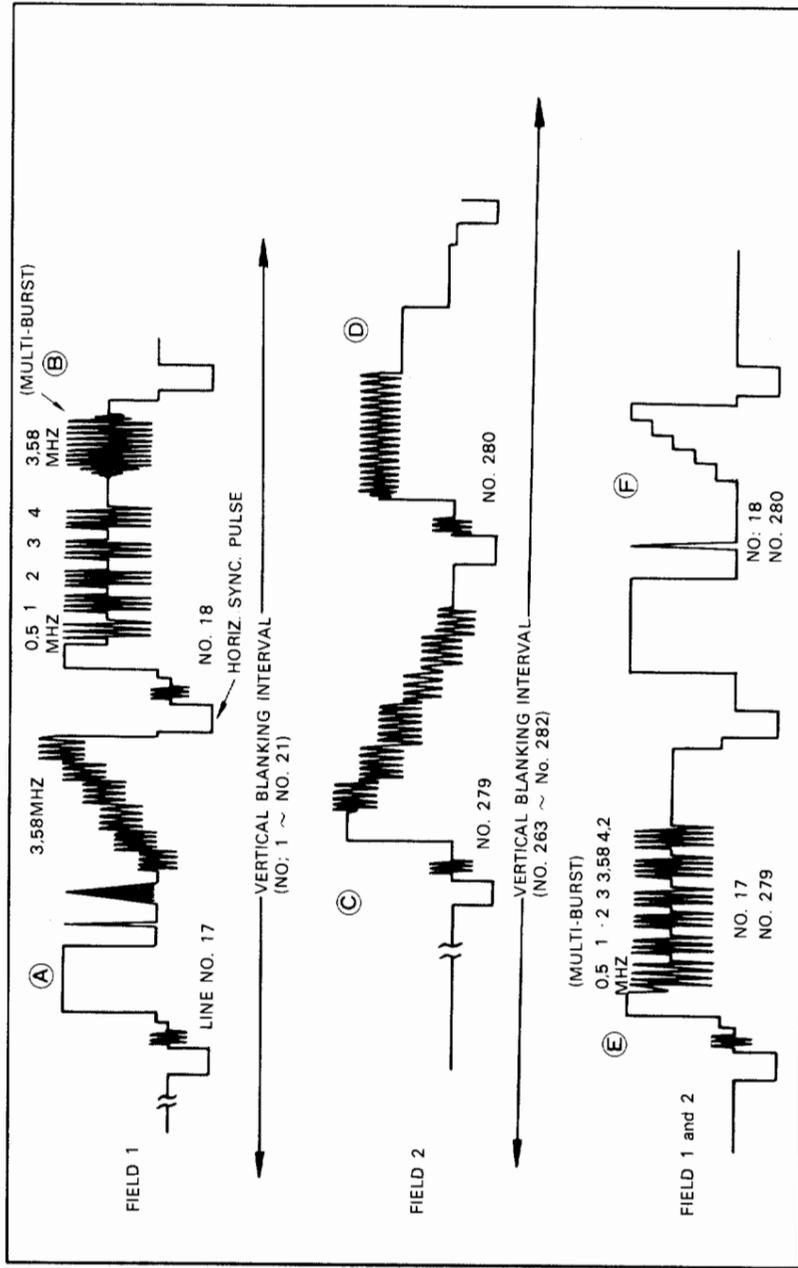

Fig. 11 VITS signal, Fields 1 and 2
Many television servicing procedures can be performed using single-trace operation. These are outlined later in the application section covering single-trace operation. One of these procedures, viewing the multi-burst signal in the VITS (vertical interval test signal), can be accomplished more effectively using a dual-trace oscilloscope. The VITS signal is specifically used for characteristic checks of the transmission system of a broadcast station or a network including repeater stations or for changeover of transmission system. In many cases, this signal does not appear in the normal video signals. Even when it is included in the signal, the method of inserting the information differs depending on the broadcast station. Also, the VITS information in Field 1 (1st interlaced scanning) and Field 2 (2nd interlaced scanning) are different in many cases. Examples of VITS signals are shown in Fig. 11.
The transmitted VITS has a specific frequency, amplitude and waveform as shown in Fig. 11. Television networks use precise signals for adjustment and checking of network transmission equipment, but the multi-burst signal in VITS can also be used for checking the operating condition of TV sets. The first frame of VITS at the "B"
9. Set the SWEEP TIME/DIV control to the 0.1ms/div position to expand the display. The VITS information will appear toward the right hand portion of the expanded waveform displays. The waveform information on each trace may appear as shown in Fig. 11. Because there is no provision for synchronizing the oscilloscope display to either of the two fields which comprise a complete vertical frame, it cannot be predicted which field display will appear on CH 1 or CH 2.
10. Pull the POSITION control outward to obtain an additional X5 magnification. Rotate the control moving the trace to the left until the expanded VITS information appears as shown in Fig. 11. Because of the low repetition rate and the high sweep speed combination, the brightness level of the signal displays will be reduced.